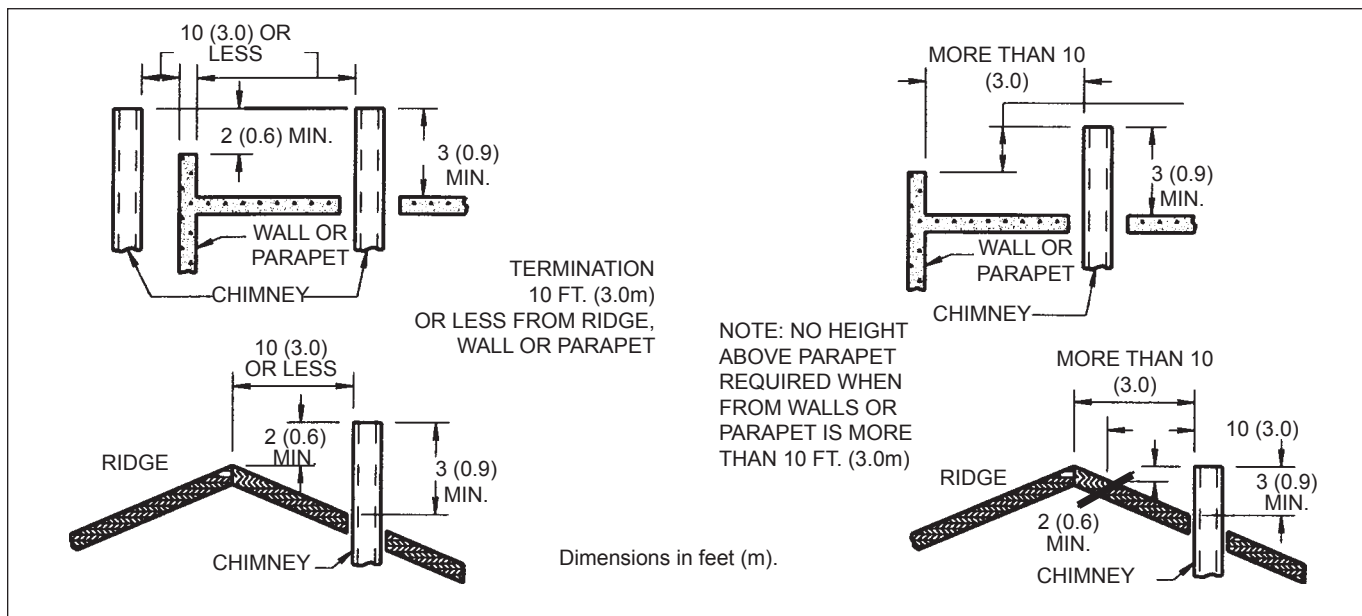

Figure 5. Vertical Vent Termination.
1. Attach a vertical pipe at least 12" (305mm) high to the boiler outlet before the horizontal run if run exceeds 5 feet (see **Figure 5**).